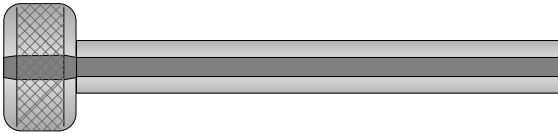

Figure 4-02
- 4.2.4.4 Take the pilot extension wrench (*ref. fig. 4-02*), slide the notched out portion of the wrench onto the shank of the pilot extension. Slide the wrench into the threaded adapter until it contacts the safety interlock assembly.